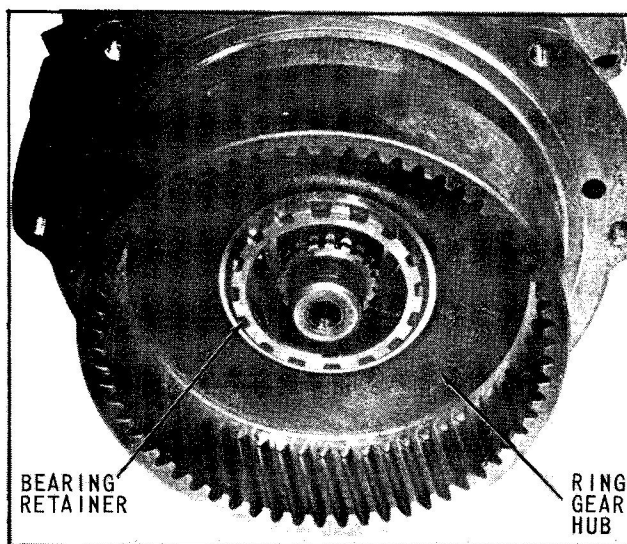

Fig. 63 Ring Gear Assembled
2. Install splines of ring gear hub over splines of bearing retainer and replace snap ring in groove of bearing retainer, (Fig. 63).